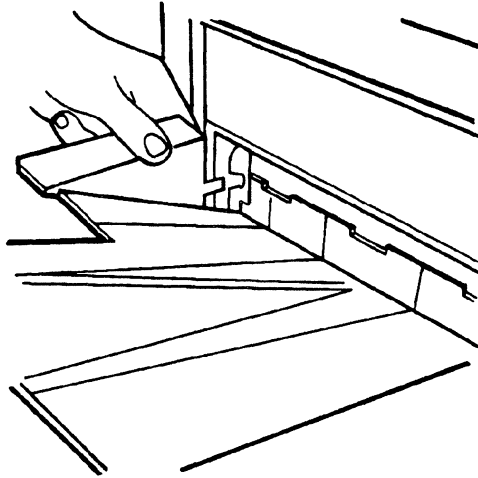

Figure 2-9 **Installing the rear & front pins**
2. Position the paper output tray pins in the slots (as shown in Figure 2-9) and tilt the tray up slightly.